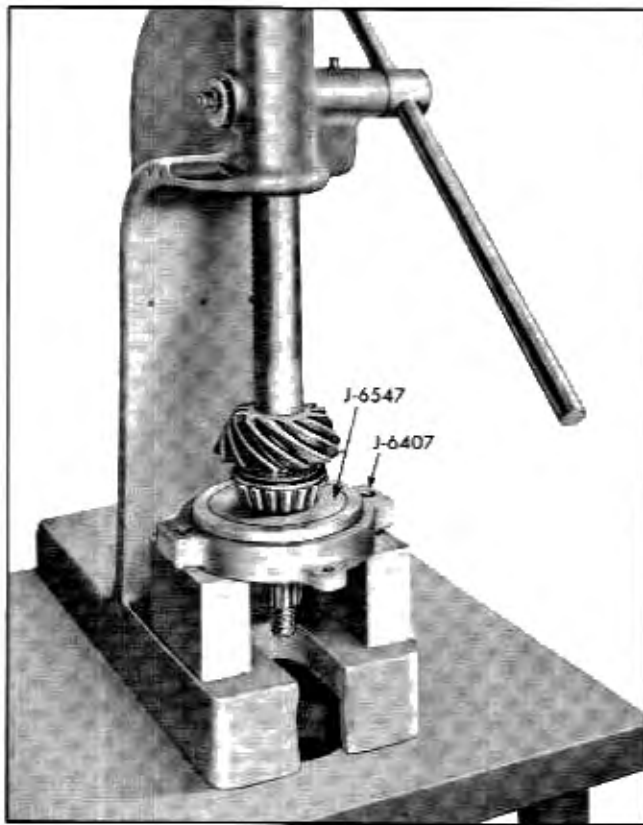

Fig. 4-34 Installing Rear Bearing With Installer J-6547 and Press Plate J-6407
19. Place pinion adjusting shims against pinion head shoulder and press rear bearing inner race against shims using Installer J-6547 and press plate J-6407. (Fig. 4-34).